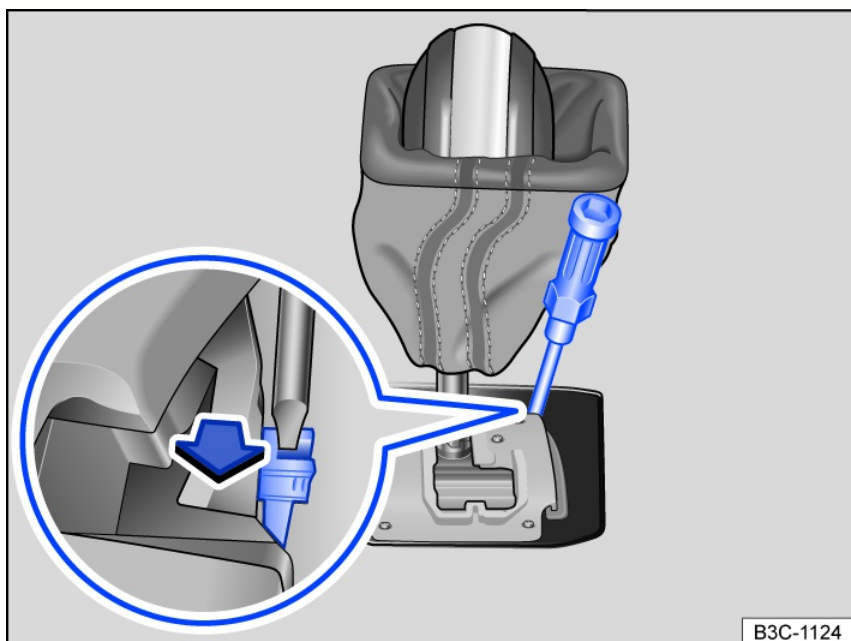

Fig. 118 Manually release the selector lever lock.
1. Push the release lever in the direction of the arrow and hold it in this position *fig. 118*.